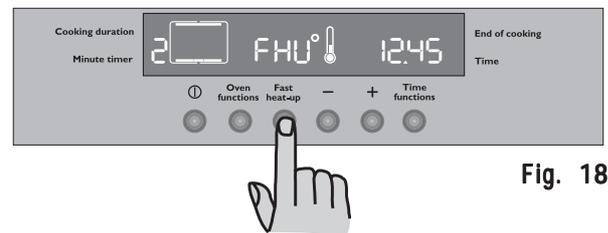

Fig. 18
- 4) Press button Fast heat up. The temperature display will show "FHU" (Fig. 18).